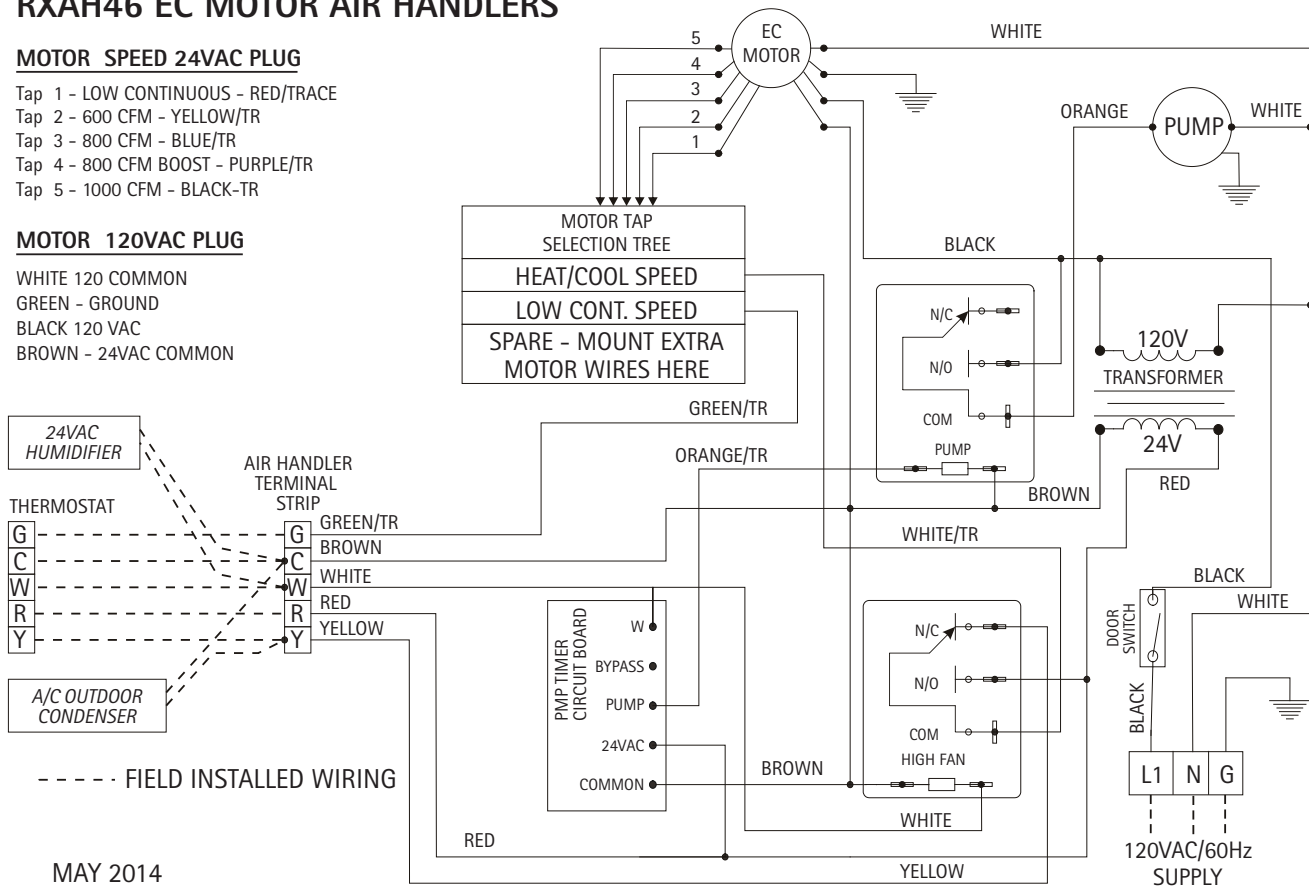

FIGURE 13 RXAH Wiring Diagram
Check to ensure proper connection(s) to the appropriate blower speed tap. To do this, reference page 25 thru 29 and select the correct model and desired fan speed data. Refer to Figure 13 for appropriate motor tap/wire colour to use.
4. There may be a faulty TAP on the motor. Select a different speed on the motor tap selection tree. Refer to Figure 13.